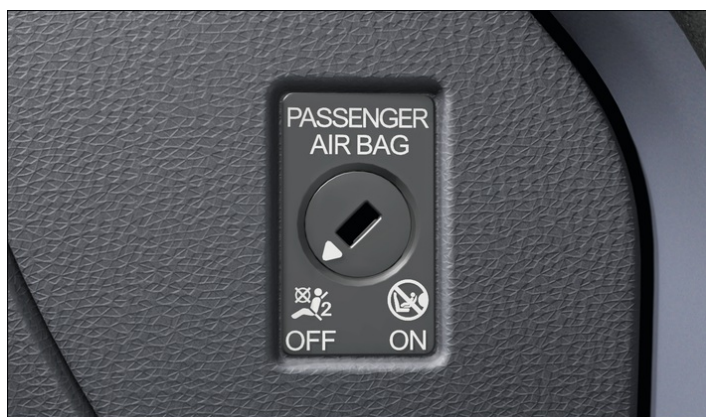

Fig. 1 In the dash panel on the front passenger side: key-operated switch for deactivating and activating the front airbag on the front passenger side
- Insert the key bit of the spare key into the key-operated switch on the dash panel until you feel the second point of resistance → *Fig. 1*. Around three quarters of the key bit should be inserted in the key switch at this point → ①.